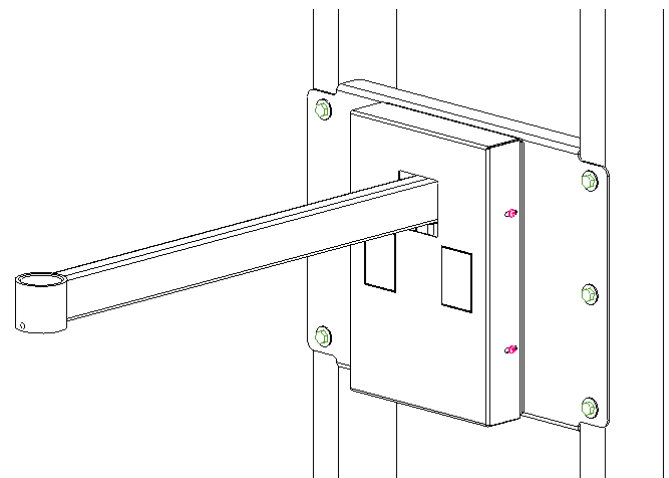

Figure 4. Install Cover on Wall Arm
2. Install the front cover using four M4 8mm Phillips head cap screws. See Figure 4.